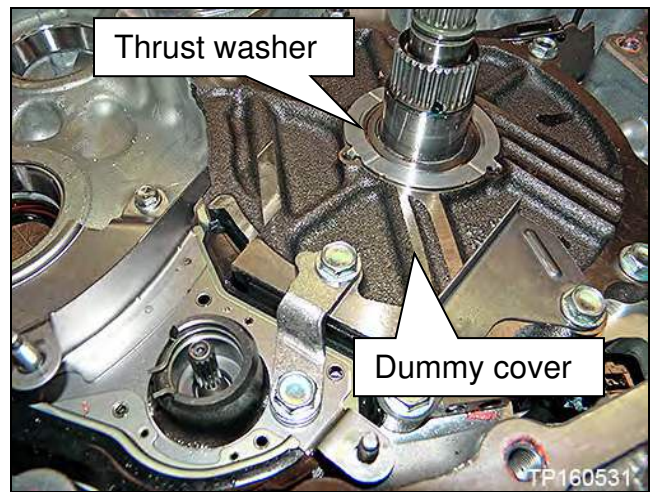

Figure 14B
- a. “Pump cover” (dummy cover) thrust washer (Figure 14B).